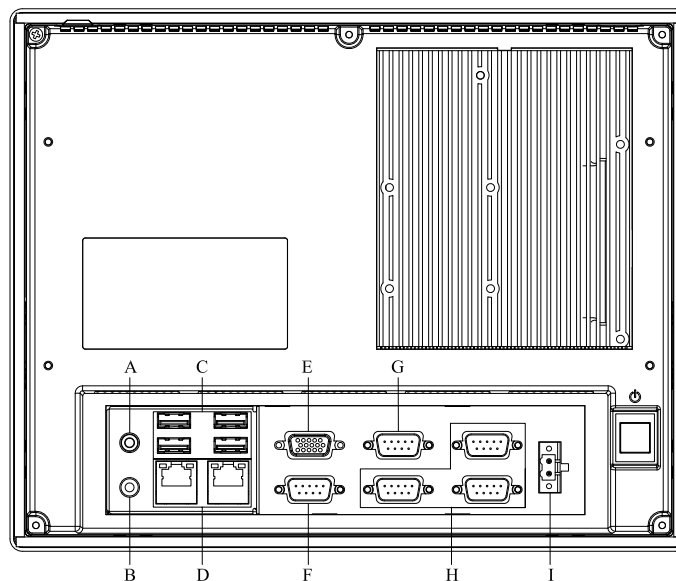

Figure 3.1 I/O Ports
This product is a high performance panel PC, please keep upright (see Fig. 3.1).
2. Attach the interface cable of the serial device to the panel PC's serial port. (See Figure 3.1.) If necessary, attach the other end of the interface cable to the serial device. Fasten any retaining screws.
2. Connect the external monitor to the system. (See Figure 3.1.)
1. Connect the external device to the system. (See Figure 3.1)
The audio interface includes two jacks: Microphone in and Line out. (See Figure 3.1) Their functions are:
1. Connect the audio device to the system. (See Figure 3.1)